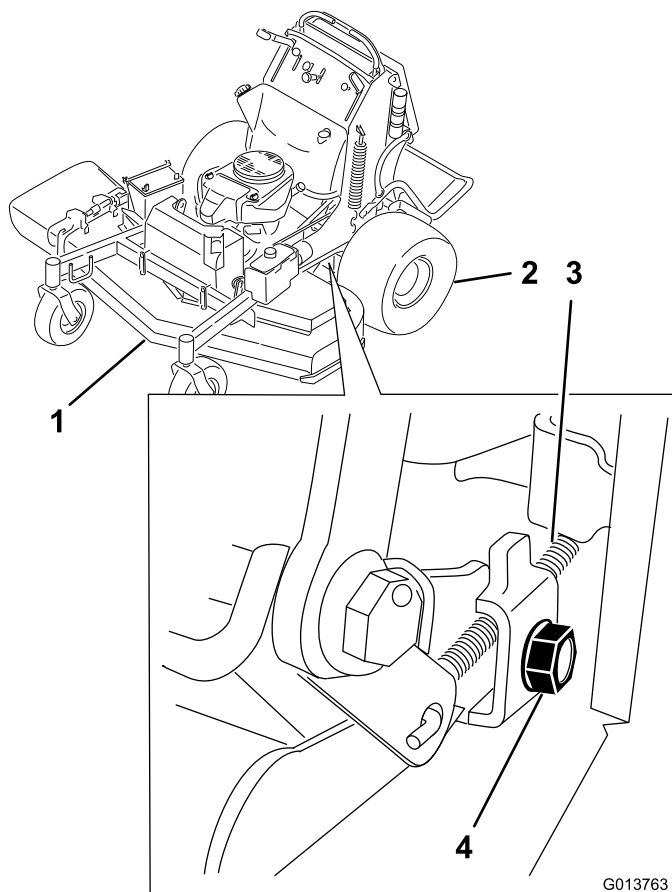

Figure 3
7. Loosen the cable clamp securing the speed control cable jacket to the shifter bracket (Figure 3). It is easiest to access this under the lower frame and in front of the left rear wheel.